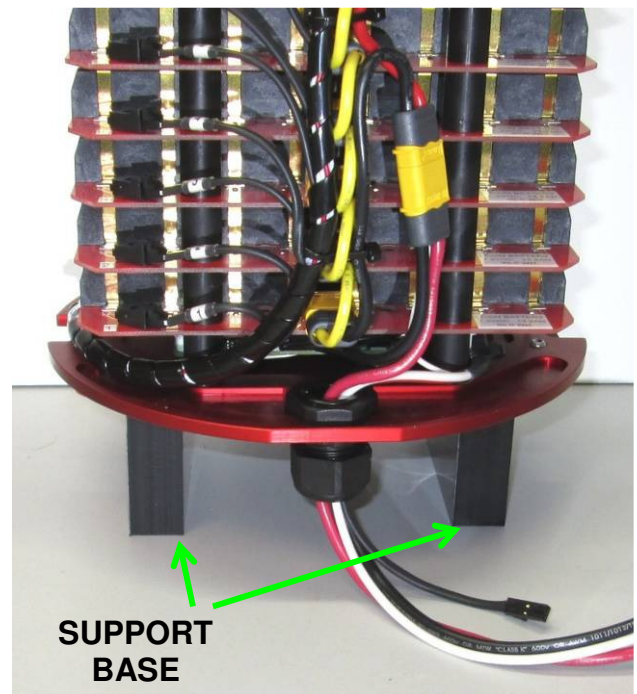

Figure 4
4. Place battery with the red aluminum mounting plate down on a stable support base to raise it up for wire clearance, before beginning to work on the battery. (Figure 4)